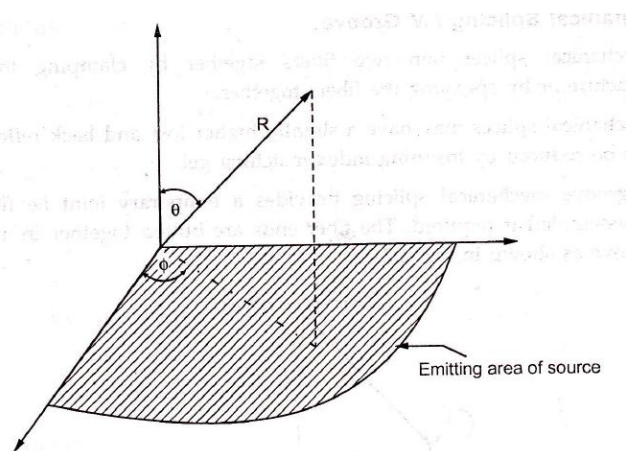

Fig. 4.3.1 Dimensional spherical co-ordinate system
- Fig. 4.3.1 shows three dimensional spherical co-ordinate system for characterizing the emission pattern from an optical source. Where the polar axis is normal to the emitting surface and radiance is a function of  $\theta$  and  $\phi$ .